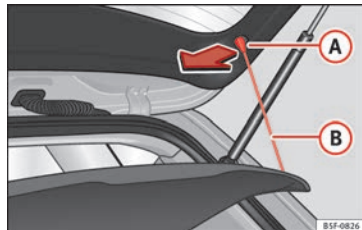

Fig. 159 In the luggage compartment: removing and installing the rear shelf.
- Unhook the loops » Fig. 159 B from their hooks A.
- Hook the loops » Fig. 159 B onto the rear lid » A.